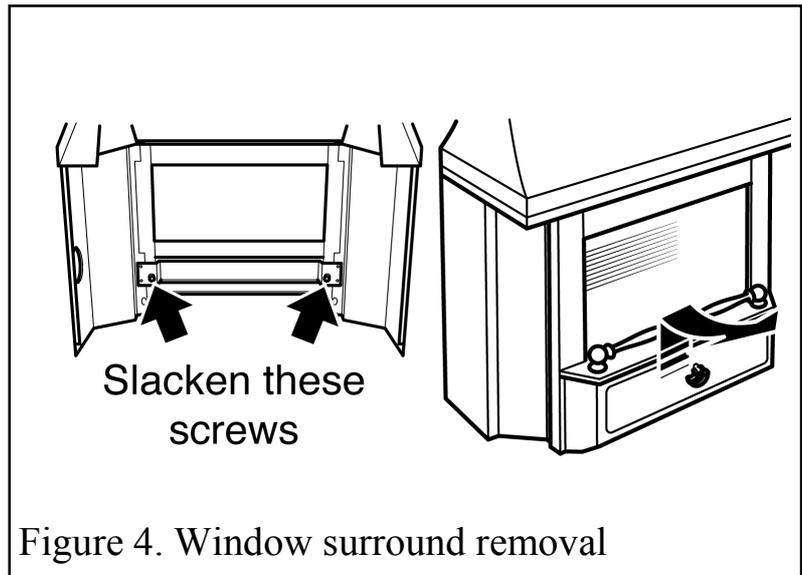

Figure 4. Window surround removal
3.3.6. Two screws as shown in figure 4 secure the front fascia of the case. These screws have been tightened to avoid damage to the case during transit. These screws must be slackened to enable the customer to remove this section of the